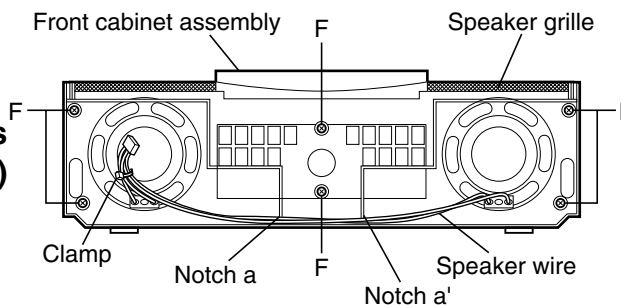

Fig.5
■ Remove the right and left speaker assemblies (See Fig.5 and 6)